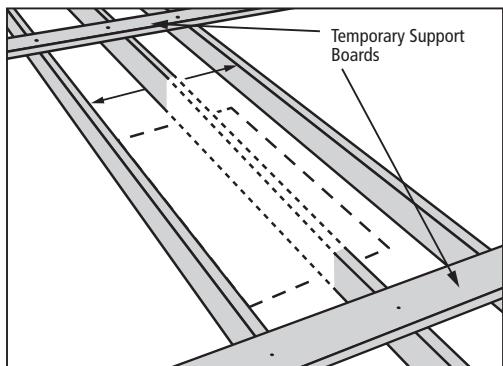

FIGURE 15
B. Rough opening with joist removal (Figure 15)